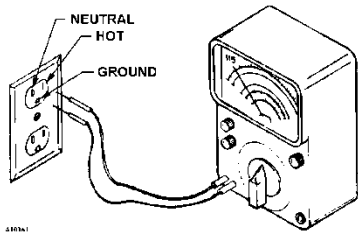

Figure 2. 115 Volt Outlet
1. **Voltage Check:** With a Volt-Meter set to check AC line voltage, insert one connector to the **HOT** terminal and the other connector to the **NEUTRAL** terminal. The voltmeter should indicate 103 to 126 Volts AC. See Figure 2.
2. **Polarity and Ground Check:** With a Volt-Meter set to check AC line voltage, insert one connector to the **HOT** terminal and the other connector to the **GROUND** terminal. The voltmeter should indicate 103 to 126 Volts AC. See Figure 2.
**NOTE:** The “**HOT**” side of the outlet should always be counter-clockwise from the “**GROUND**” terminal, with the ground terminal at the bottom. The “**NEUTRAL**” terminal will be clockwise from the “ground” terminal. See Figure 2.